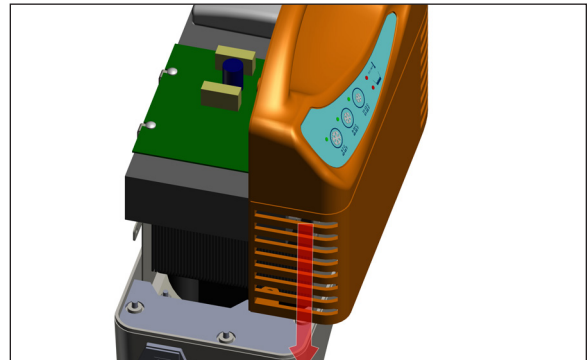

Figure 29 - Step 3 Install front enclosure.
3. Place the front enclosure into the bottom enclosure. Check to make sure that all wires are properly located within the enclosure (Figure 29). Ensure wires do not fall between the plastic divider and the reservoir.